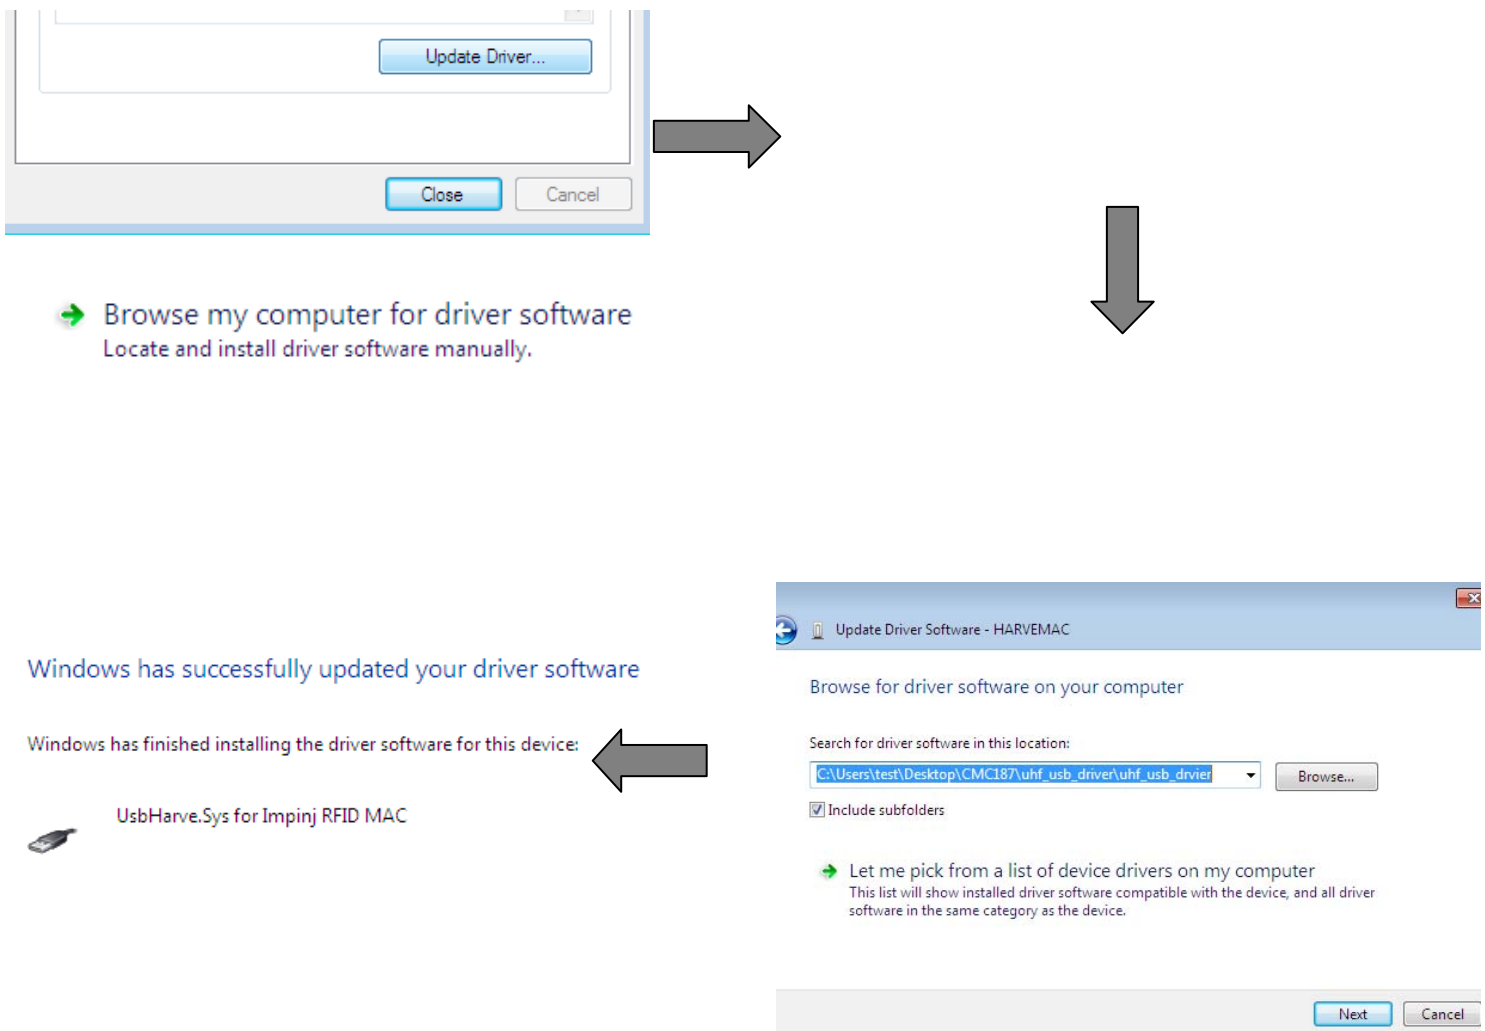

Figure 2.2
2. Double-click in the “other devices” drop-down box to choose “HARVEMAC” option → click the “reinstall driver” → check “from the list, or specify the location to install (high Level)” option → click “next” button → click “browse” button to select store path of “uhf\_usb\_driver” file → click “next” button. Install the USB driver to install the driver after the completion of the click “finish” button to close the wizard; Operating procedures are shown in figure 2.2 below: